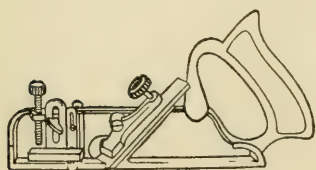

FIG. 23. — Dado-plane.
**Dado-plane** (Fig. 23), which is made for *grooving* (Fig. 75, page 59). As the plane-stock of the dado-plane must be of the same size as the cutter, it is necessary to select one having the width of cutter for